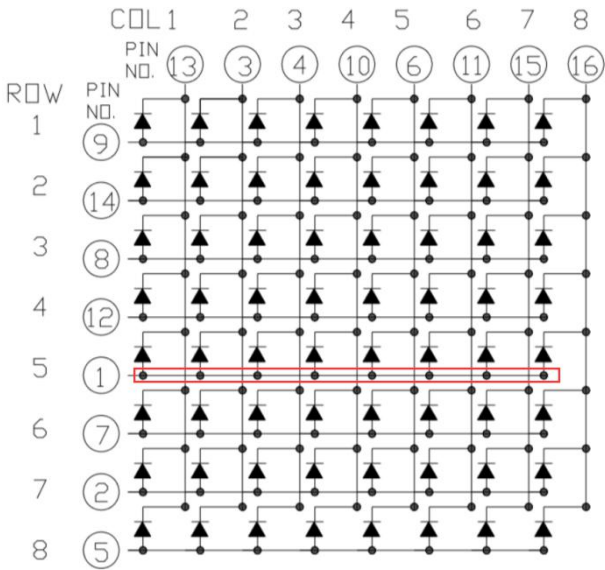

figure 1
- 1) Monochromatic dot matrix LED display originally had no distinction between common anode and common cathode. The name of common anode and common cathode appeared because of industry habits. The names of common anode and cathode for dot matrix LED display on the market are generally defined according to the polarity of the first pin of the dot matrix. The first pin of the dot-matrix LED display is anode and it is named common anode dot-matrix LED display, otherwise, it is named the common cathode dot-matrix LED display. As shown in Figure 1 below, it is named common anode dot-matrix LED display.